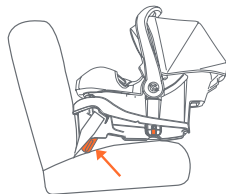

Fig. 51-4
- If the Seat Angle Indicator bubble level (4-22 lb.) is not centered or level line (23-30 lb.) is not parallel with the ground, extend the elevation foot, **See section 7.5 To Deploy Elevation Foot**, under the front of the base at the foot end to achieve the correct position (Fig. 51-4). If the correct elevation can not be achieved see section 7.5 Elevation Aids. Re-tighten the vehicle seat belt as instructed in section, **securing the Safety Seat or Base in the Vehicle**.